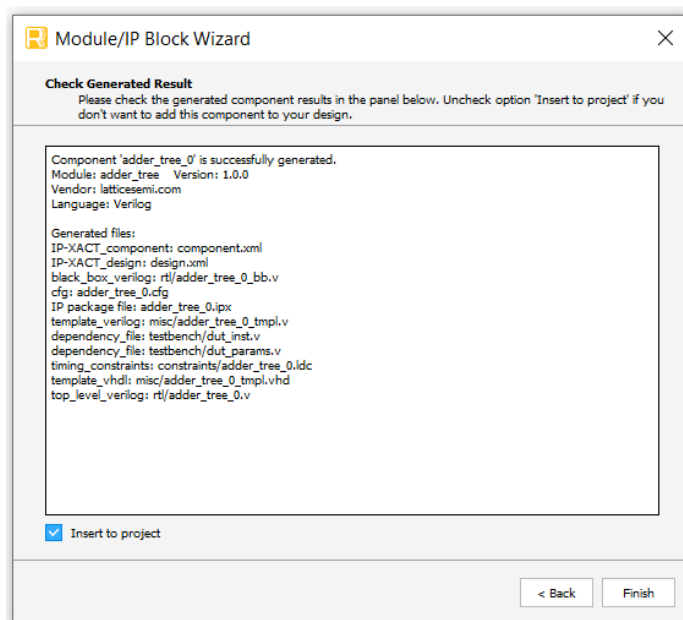

Figure 3.3. Check Generating Result
- Click **Generate**. The **Check Generating Result** dialog box opens. Design block messages and results are shown in Figure 3.3.